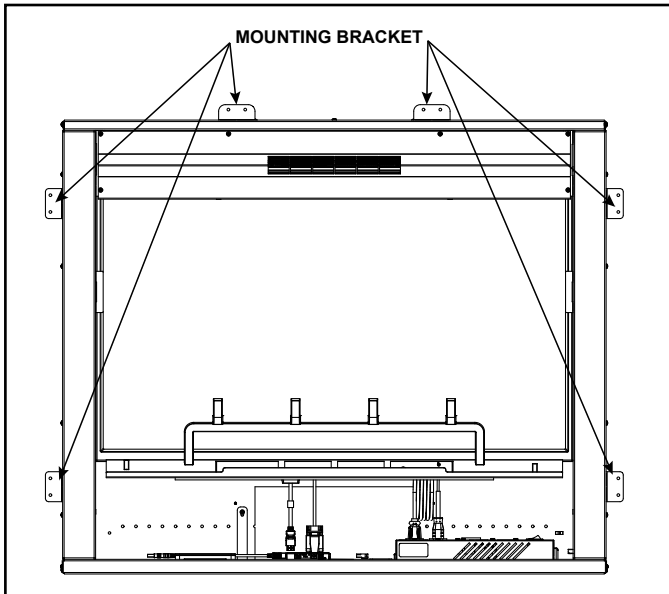

Figure 4.2 Pre-drilled Bracket Hole Locations
Position the appliance within the framing opening. Level the appliance with shims if necessary. Bend out mounting brackets (6) with pre-drilled holes located at the sides and top of the appliance. Use two #8 construction screws for each bracket to secure the appliance in place. See Figure 4.2.